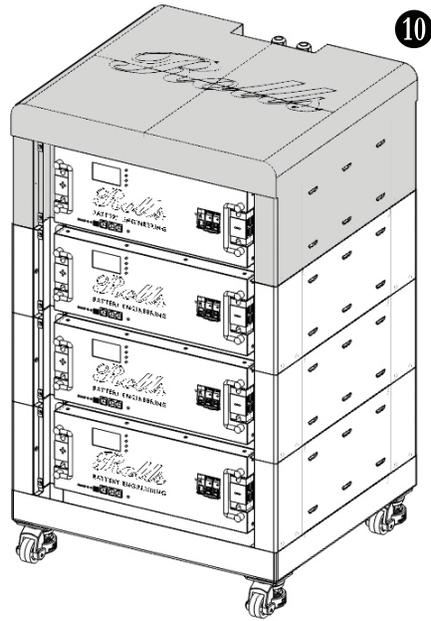

Figure 5.0
- 1.9 With the side panels installed, place the cabinet top assembly **(10)** on the top 4 columns and secure using two of the supplied 10mm M5 screws on each column as shown in Figure 5.0.